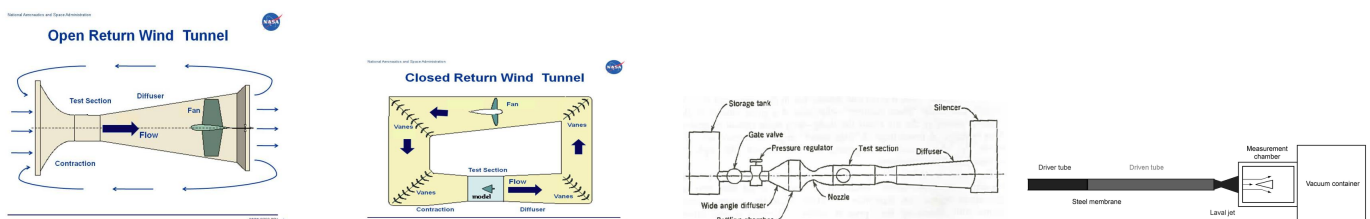

Figure 1: Open wind tunnel vs Close wind tunnel vs Blowdown vs Shock Tube
- https://www.researchgate.net/figure/Schematic-of-a-shock-tube-as-wind-tunnel_fig1_251734637
- https://www.researchgate.net/figure/Main-components-of-an-intermittent-blow-down-supersonic-wind-tunnel-1_fig1_328747638